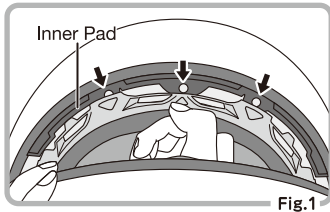

Fig.1
- 1 Remove the snaps on the forehead area from the helmet by pulling down. (Fig.1)